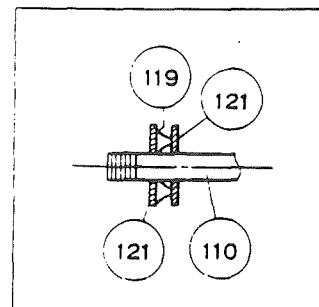

Fig. 42
- 1) Referring to Reassembly Procedure (P. 32), insert wave washer (119) and adjusting washer (121) in sequence, as shown in Fig. 42, into coarse focus shaft (110). After screwing coarse focus knob (104) and bush (115) into (110), make adjustment of the torque to 400g ~ 500g, by means of washers (121A), (121G).